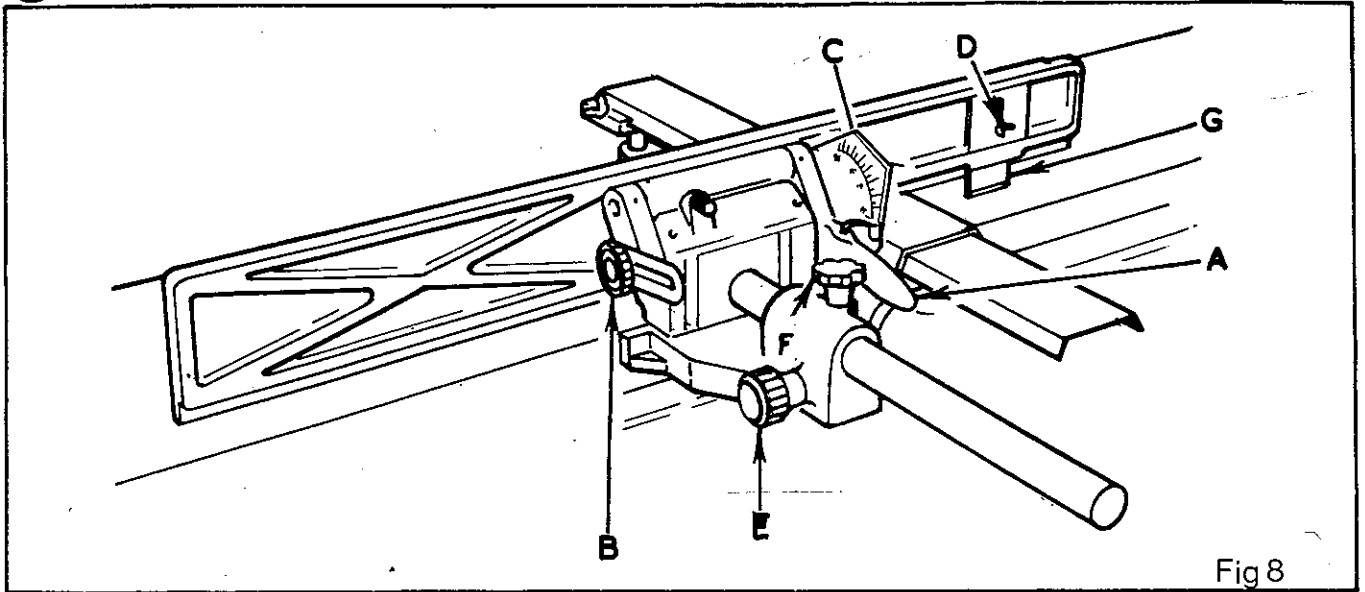
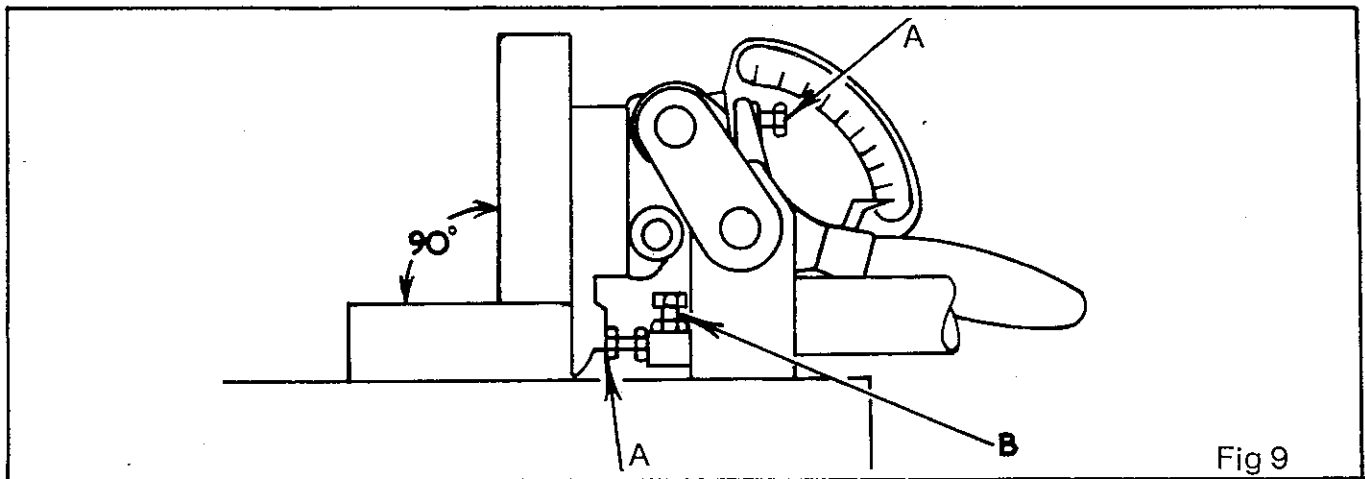

Fig 8
Fig 9
The fence cants by means of a single lever "A" in Fig. 8 to 45° . The angle to which the fence is canted is shown on a graduated scale "C".
1. Move the fence towards the rear of the table as shown in Fig. 9
2. Check the 90° positive stops by means of a steel square as shown in Fig. 9. If adjustment is necessary, adjust the hexagon head bolts "A" until the fence is at right angles to the table when hard up against the stops and the handwheel "B", in Fig. 8 locked.
3. Check the 45° positive stop by means of an adjustable square. If adjustment is necessary, adjust the socket head grubscrew "B" until the fence is 45° to the table when hard up against the stop and the handwheel "B" in Fig. 8 locked.